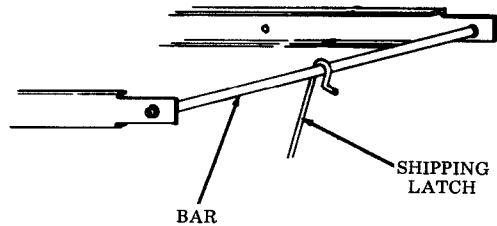

Fig. 67
Step 1 — Remove shipping latch and bar (Fig. 67). Discard. If printer is to be shipped at a later date, retain bar and latch.